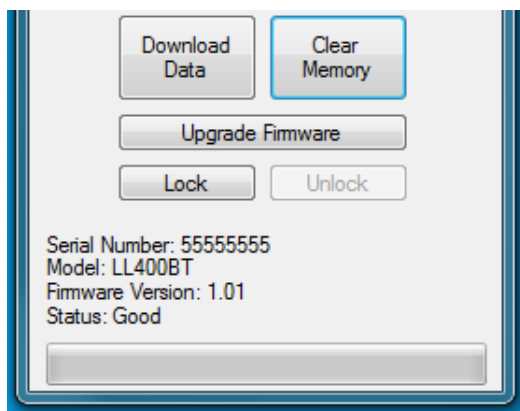
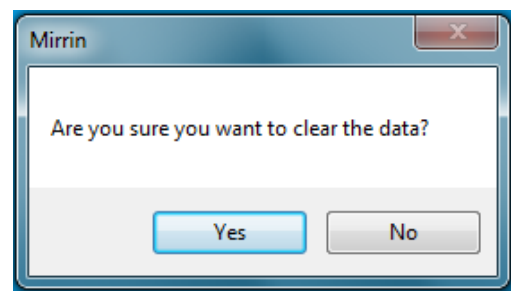

Figure 2.10.1
Figure 2.10.2
Step 1: Click on the 'Clear Memory' button in the 'Status' window as shown in figure 2.10.1. A message box as shown in figure 2.10.2 appears.